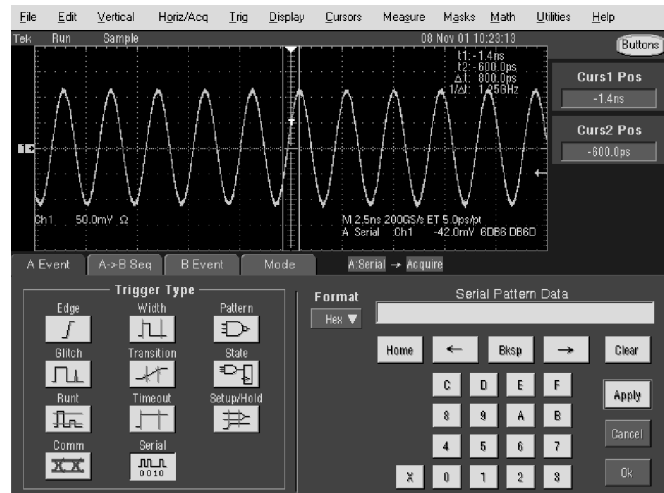

Figure 4-28: Isolated 0 triggering
- d. Adjust the cursors until the Δt readout equals 800 ps (one unit interval). Center the cursors around the center graticule line (see Figure 4-28).
- k. Verify that the instrument triggers one Unit Interval (UI, one baud divided by the bit period) before the 0 in the input signal (see Figure 4-28). Enter pass or fail in the test record.
- o. Verify that the instrument triggers at the 0 in the input signal (see Figure 4-28). Enter pass or fail in the test record.
- s. Verify that the instrument triggers one Unit Interval (UI) after the 0 in the input signal (see Figure 4-28). Enter pass or fail in the test record.